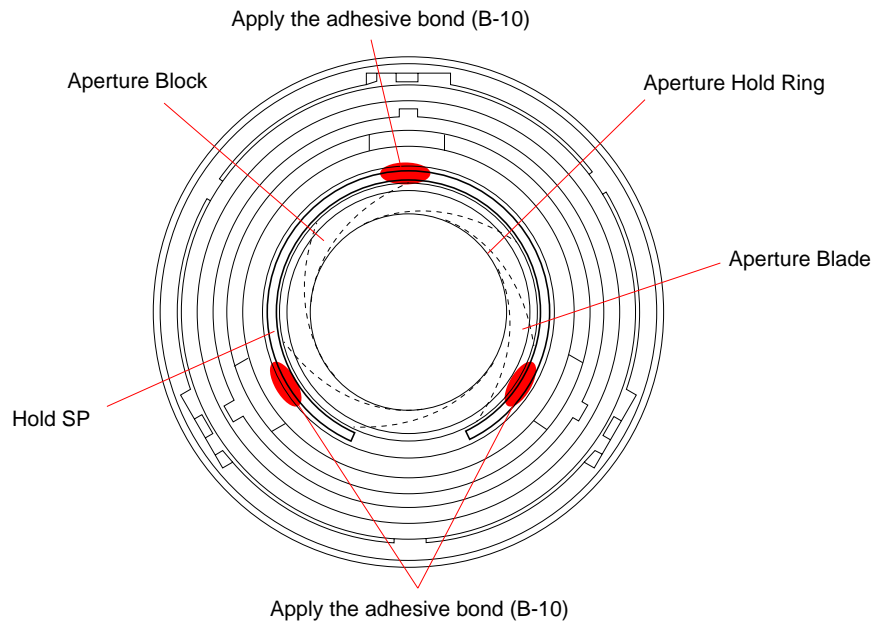

Fig.4-2-9
- 1) Rotate the aperture block from the lens front so that the aperture blades are hidden behind the aperture hold ring.(Fig.4-2-9)
- 4) After completing the adjustment, apply the adhesive bond (B-10) to the three indicated locations.(Fig.4-2-9)